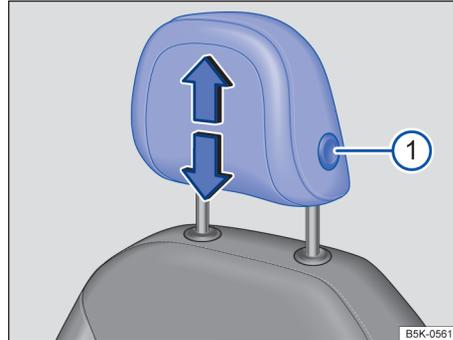
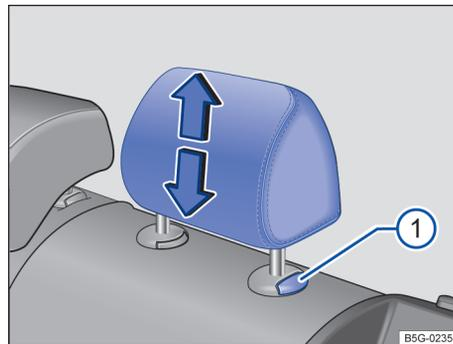

Fig. 70 Adjusting the front head restraints.
Fig. 71 Adjusting the rear head restraints.
- While pressing the button → fig. 70 ⓘ or → fig. 71 ⓘ, pull the head restraint up or push it down in the direction of the arrow → ⚠ in Introduction on page 108.